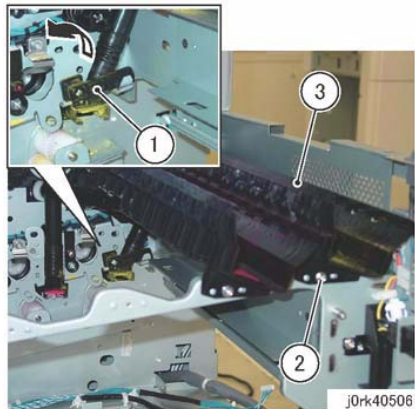

Figure 5 Dispenser Assembly (Y) Removal
8. Remove the Dispenser Assembly (C) by referring to Step 6.
9. Remove the Dispenser Assembly (M) by referring to Step 6.
10. Remove the Dispenser Assembly (Y). (Figure 5)